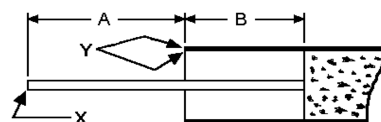
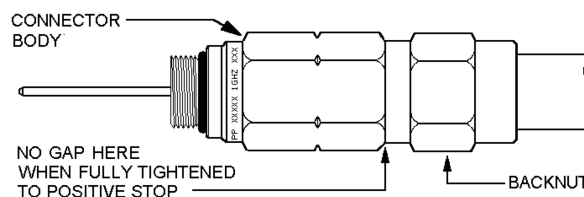

**Figure 2 - Center Conductor Cut Mark**
**Figure 1 - Preparation Dimensions**
2. Trim the outer sheath and dielectric over the length of dimension "A". See **Figure 1**. PPC pin and splice connectors have a center conductor length CUT MARK on the body. Align the connector and cable as shown in **Figure 2**. This will allow you to prepare the proper center conductor length without guesswork.